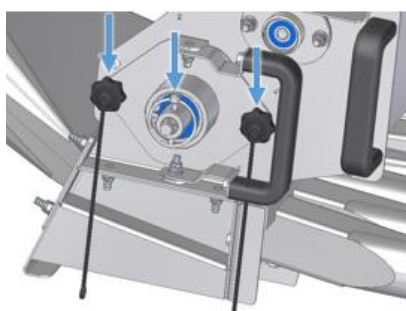

Figure 22
- The bearing flange is fixed with the star knob nuts and the cotter pin is inserted through the bearing flange and seeding shaft to achieve optimal positioning (see Figure 22).